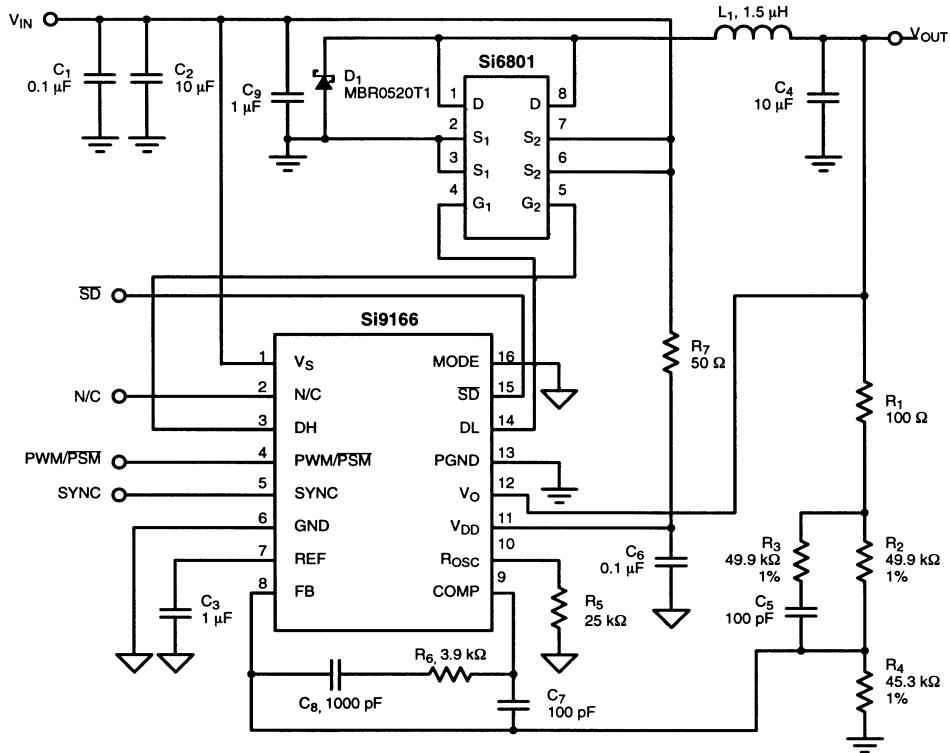
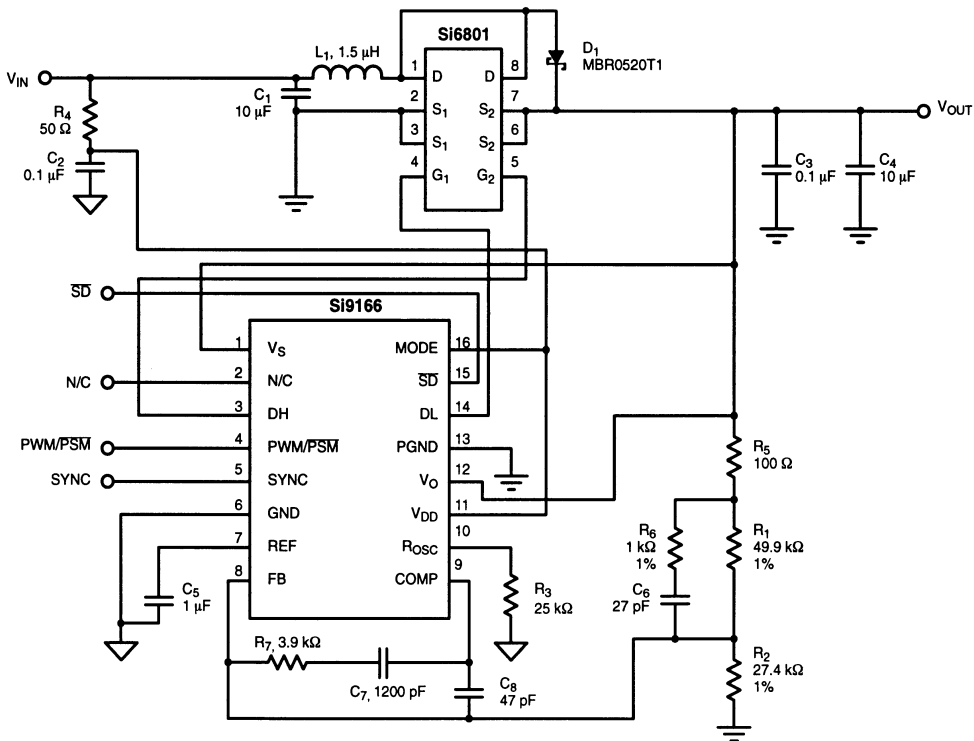

FIGURE 2. Buck Configuration
FIGURE 3. Boost Configuration
The Si9166 can be easily configured to function as a step-down (buck) or a step-up (boost) converter. Figures 2 and 3 show the typical application circuit for buck and boost converters, respectively. The list in Table 1 shows the key IC connection differences in the two topologies.
The divider resistor pair, R1 and R2 in Figure 3 and R2 and R4 in Figure 2, determine the output regulation point. Since R1 is part of the compensation network, Vishay Siliconix recommends adjusting R2 to change the regulation voltage without affecting the loop gain. With fixed R1, R2 can be easily calculated by (7) for the desired output voltage setting.